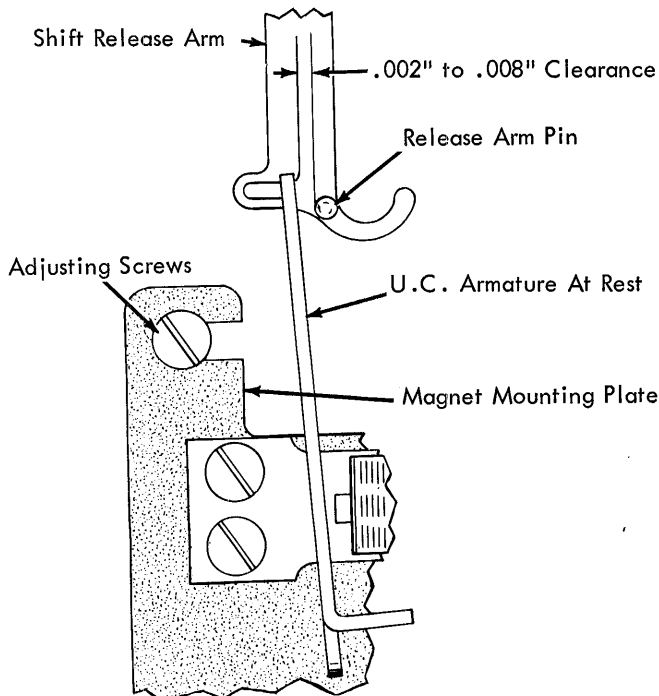

FIGURE 79. Magnet Assembly Mounting Bracket
- a. 11 Inch Machine (Fig. 79) - Position the magnet assembly mounting plate (front to rear) so that the UC armature (at rest) clears the release arm pin by .002" to .008".